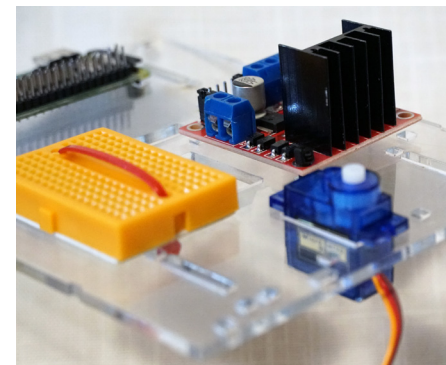

Figure 10
11. **Servo:** put the wires through the top of the chassis and place the servo as shown. (Figure 10)